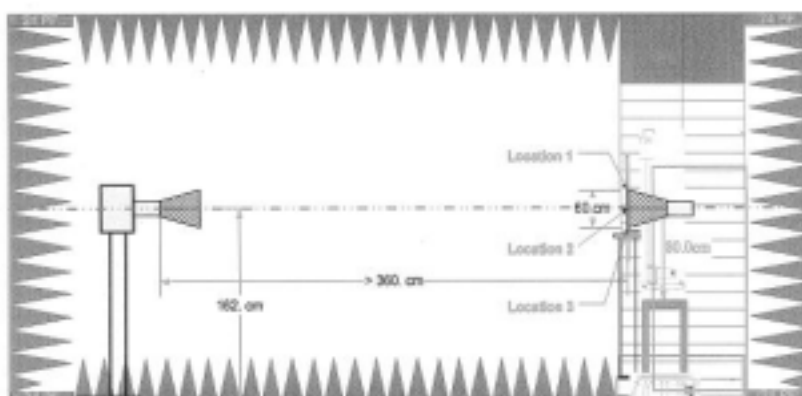

Fig.2 Quiet room
- Equipment : Anechoic Chamber (Fig.2), Network Analyzer (Agilent E8753ES), Standard Horn